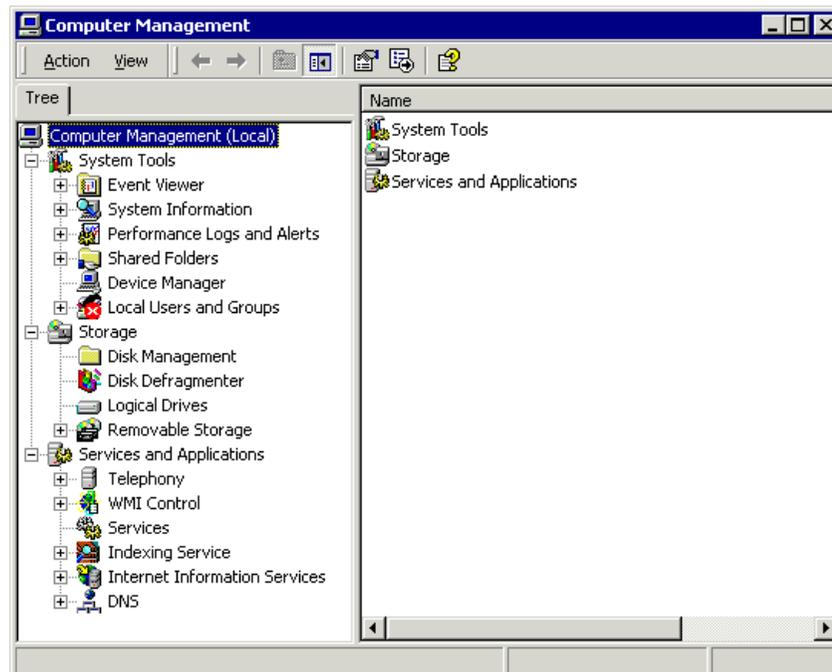

Figure 2. Computer Management
- Computer Management shown in Figure 2 is used to view local server information such as hardware settings, event viewer, disk information, services and applications, and local users and groups when not part of Active Directory.